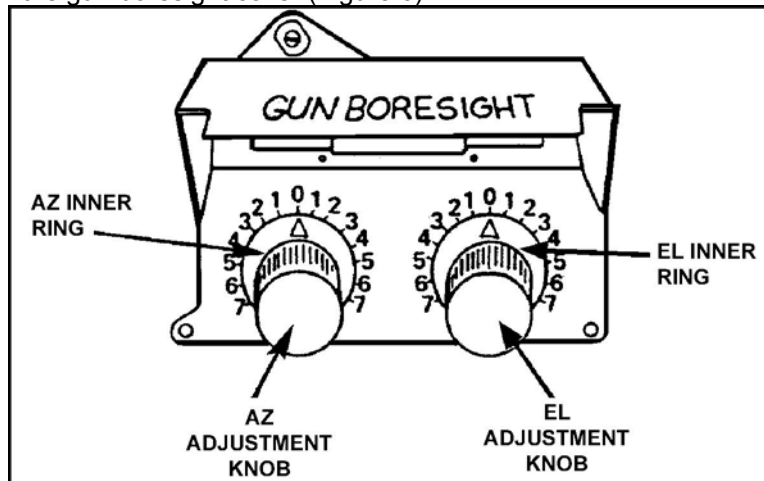

Figure 6. Gun boresight cover.
- (1) Open the gun boresight cover (Figure 6).
- (2) To adjust the reticle, turn the elevation and azimuth boresight adjustment knobs to center the reticle cross hairs on the strike of the round.
- (3) Close the gun boresight cover (Figure 6).
- NOTE: Remember, the first round fired will be the ammunition of the previous selection (AP).